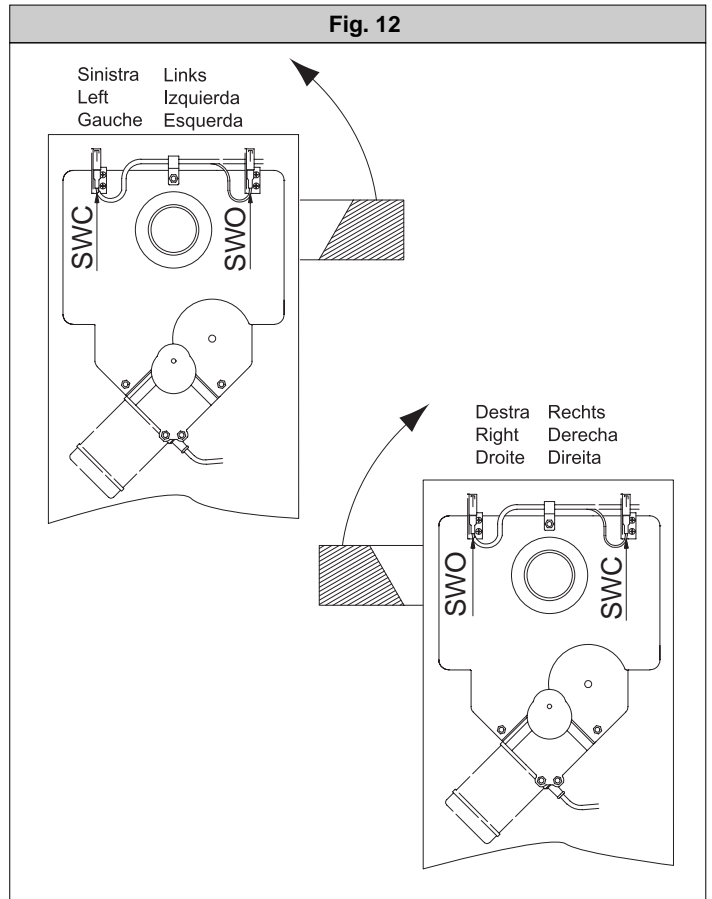

Fig. 13
- 7) Check the movement of the cam-holder bars (fig. 13), if it is not smooth, the bars must be lubricated.